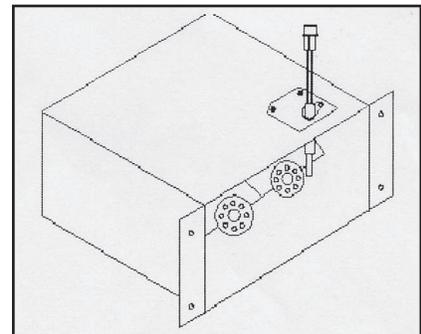

Fig. 1
5. Igniters located at the bottom of the burner box require the removal of the four (4) screws holding the gas valve manifold assembly to the burner box. Remove the entire manifold assembly for installation of the igniter.
6. Locate the igniter in the lower right corner of the burner box . Remove the two (2) screws holding the igniter to the burner box and remove the igniter. See Figure 1. The picture shows the bottom view of the burner box rotated upward so you can see the components better.
10. Reinstall the manifold and gas valve assembly with the four (4) screws previously used.